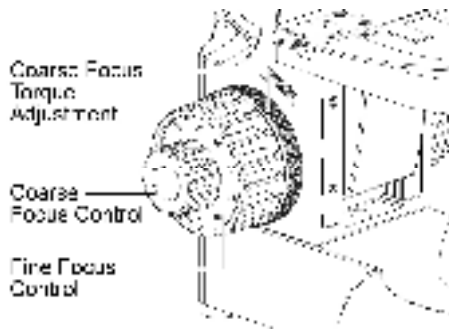

Fig.4
- The coarse focus tension (Fig.4) has been set at the factory, but can be readjusted as required (see Fig.4, number 1).